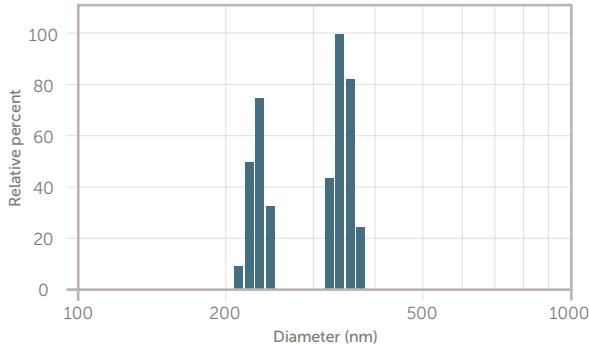

Figure 1. Bimodal 70–30% mixture of 220 and 340 nm PSL standards.
**Reason #2:** The Nicomp algorithm is uniquely capable of determining when multiple peaks are present and can resolve peaks closer than any other DLS system (Figure 1).